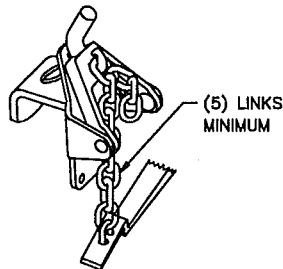

Figure 9
2. Lower lift unit. Attach upper end of chosen chain link to lift unit hook, while allowing remaining free links to fall down to the outside of the trailer frame (See figure 9).
3. **There must be at least 5 links between the lift unit and the spring bar.** This is necessary for proper operation of the spring bars during turns (See figure 9). **If there will be less than 5 links between the lift unit and spring bar, the angle of the head assembly (2) must be increased.** The trailer must be uncoupled and the upper bolt removed from the head assembly. The head assembly is then pivoted down and an additional washer is added underneath the pin [See figure 4]. Reassemble.